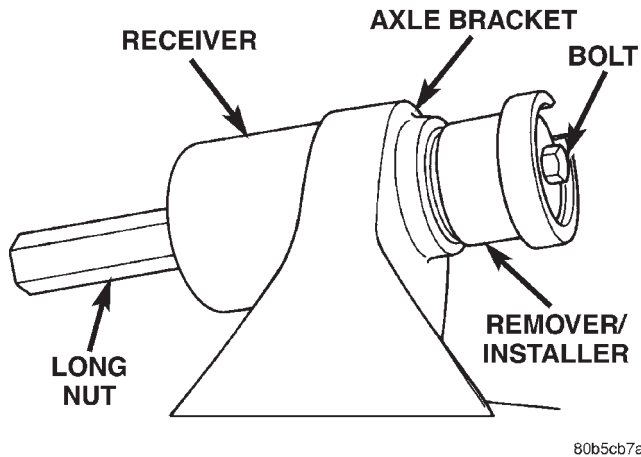

Fig. 4 Bushing Removal
- (1) Remove the upper suspension arm from axle.
- (2) Position Spacer 7932-3 over the axle bushing on a 4x2 vehicle and right side on a 4x4 vehicle.
- (3) Place Receiver 7932-1 over flanged end of the bushing. (Fig. 4).
- (4) Place small end of Remover/Install 7932-2 against other side of the bushing.